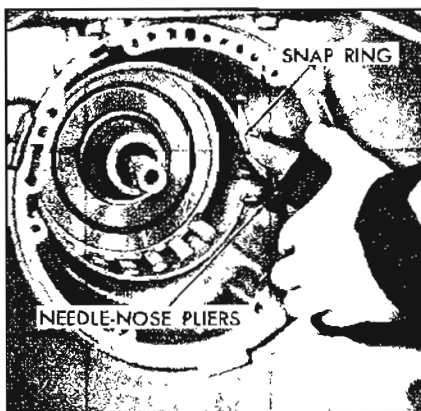

Figure 5-547
15. Remove the center support to case retaining snap ring. See Figure 5-547.